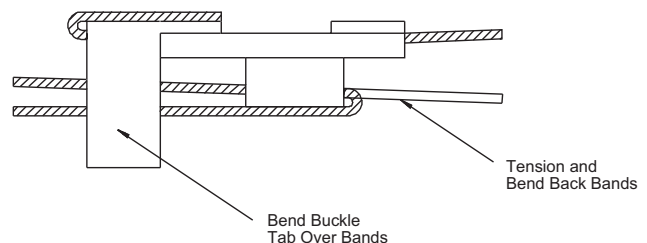

Figure 1: Bending Method
1. Cut the structural band strap into two (2) 1.5 m (5 ft) straps.
2. Attach the bracket to the pole at the band desired height using the two (2) straps and the two (2) buckles provided.
3. Tension the straps according to the instructions for the banding tool used. Banding tool, TC9311PM3T, is recommended and may be purchased separately. A BAND-IT^{fi} Tool instruction chart is provided with each pole mount. The ends of the bands are bent around the buckle (see *Figure 1*).